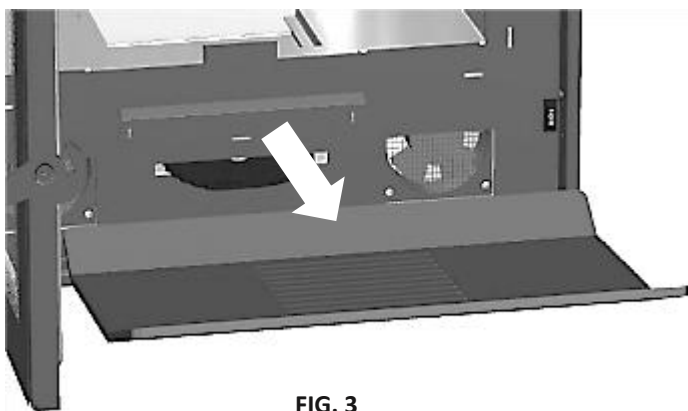

FIG. 3
1. Remove the deflector units, the sides and the bottom section. **Pay attention to vermiculite parts; they can break.** (Fig. 3)